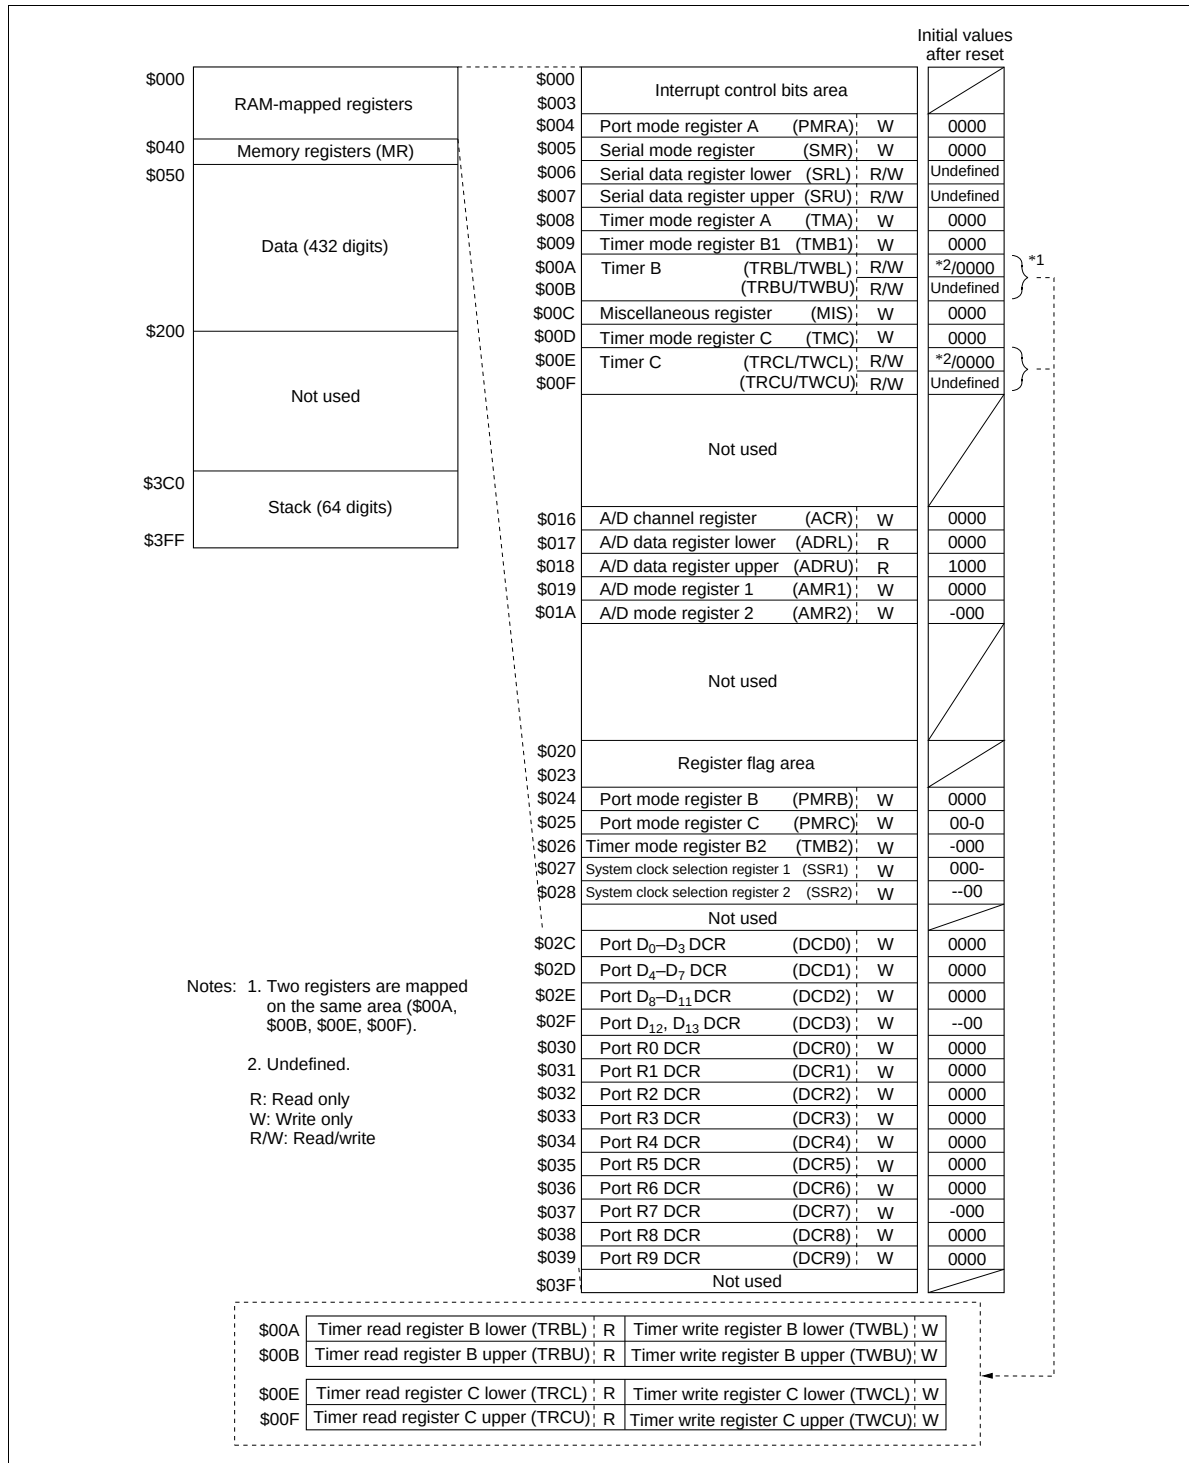

Figure 2 RAM Memory Map
The MCU contains 512-digit $\times$ 4 bit RAM areas. These RAM areas consist of a memory register area, a data area, and a stack area. In addition, an interrupt control bits area, special function register area, and register flag area are mapped onto the same RAM memory space labeled as a RAM-mapped register area. The RAM memory map is shown in figure 2 and described below.
This area is used as mode registers and data registers for external interrupts, serial interface, timer/counters, A/D converter, and as data control registers for I/O ports. The structure is shown in figures 2 and 5. These registers can be classified into three types: write-only (W), read-only (R), and read/write (R/W). RAM bit manipulation instructions cannot be used for these registers.